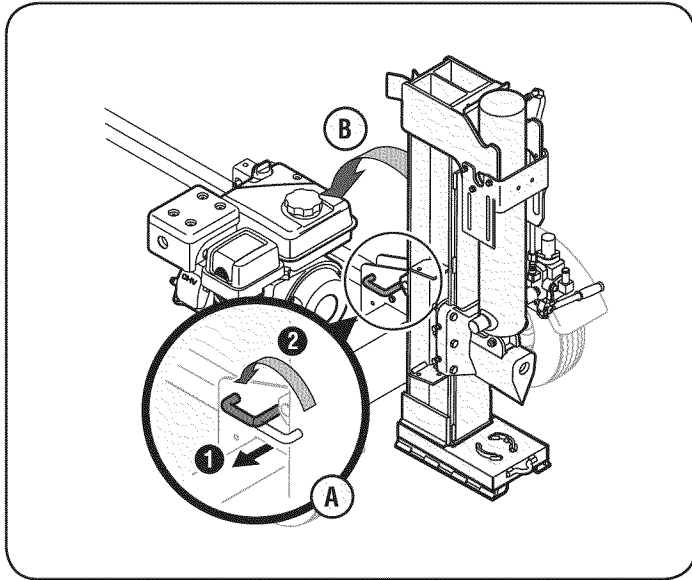

Figure 3
15. Pull out the vertical beam lock, rotate it back, and pivot the beam to the horizontal position until it locks, being careful to avoid any possible pinch points. See Figure 3.